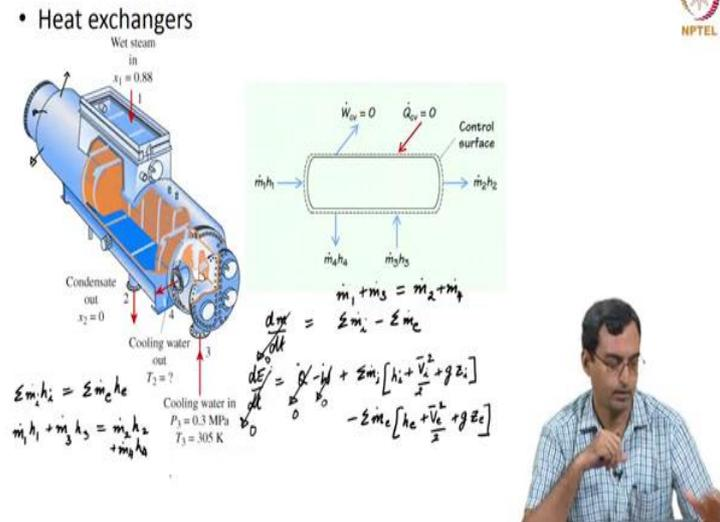

Figure 4.
Figure 4 shows a cut section of a heat exchanger. Heat exchangers are used in many applications such as cars, refrigerators, power plants, etc. A schematic of a heat exchanger is shown in Fig. 4. It has more than one inlet and outlet. For a steady state operation of the heat exchanger (shown in the schematic), $\frac{dm}{dt} = 0$. Hence, $\sum \dot{m}_i = \sum \dot{m}_e$ or $\dot{m}_1 + \dot{m}_3 = \dot{m}_2 + \dot{m}_4$. Inside a heat exchanger, heat transfer happens between a hot and cold fluid. Hence, there are separate inlets and outlets for a cold fluid and a hot fluid. The heat transfer across the boundaries of the heat exchanger (which appears in the equation of the first law for control volumes) is 0, ideally (hence, $\dot{Q} = 0$). There is no work interaction for a heat exchanger ($\dot{W} = 0$). As the operation is at steady state conditions, $\frac{dE}{dt} = 0$. Hence, equation (1) reduces to,